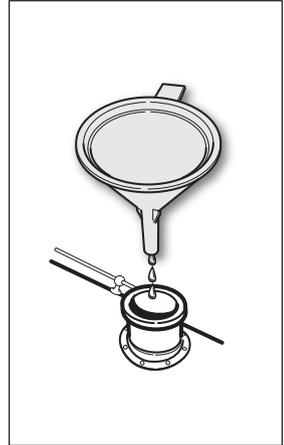
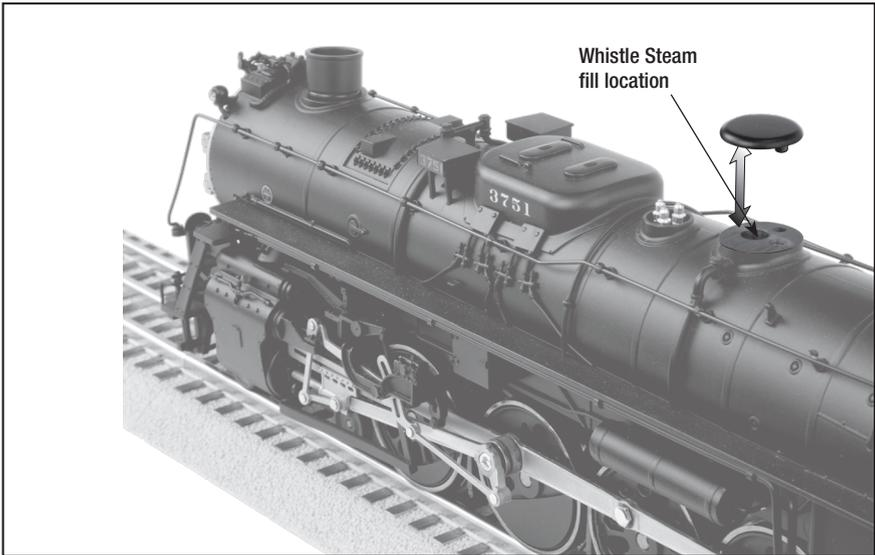

Figure 4. Adding smoke fluid to the main stack
Figure 5. Whistle Steam (auxiliary) smoke fluid fill location
**To prevent damage to the heating elements, never operate your locomotive's smoke units without smoke fluid.** When adding fluid, DO NOT EXCEED 20 DROPS per smoke unit as this can cause your smoke units to become oversaturated and allow leakage onto the electronics. Add 20 drops initially to the main stack (see Figure 4) and to the whistle steam fill location (see Figure 5). Add 10 to 20 drops thereafter.